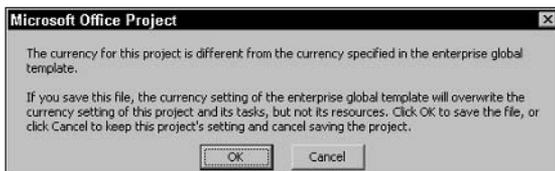

Figure 19-34: You see warnings like this when your project's settings don't match the settings in the Enterprise Global template.
4. After you find the .mpp file that you want to import, click the Import button. If any of the settings in your file are different from the settings in the Enterprise Global template, you see a message like the one shown in Figure 19-34. Click OK to allow the Enterprise Global template settings to overwrite the settings in your project.